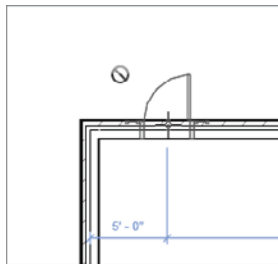

FIGURE 1.55 Inserting a hosted family (.rfa)
- 9.** Zoom in on the upper-left corner of the building, as illustrated in Figure 1.55.
- 10.** To insert the door into the model, you must place it in the wall. (Notice that before you hover your cursor over the actual wall, Revit won't allow you to add it to the model, as shown in Figure 1.55.) When your pointer is directly on top of the wall, you see the outline of the door. Pick a point in the wall, and the door is inserted. (We'll cover this in depth in the next chapter.)